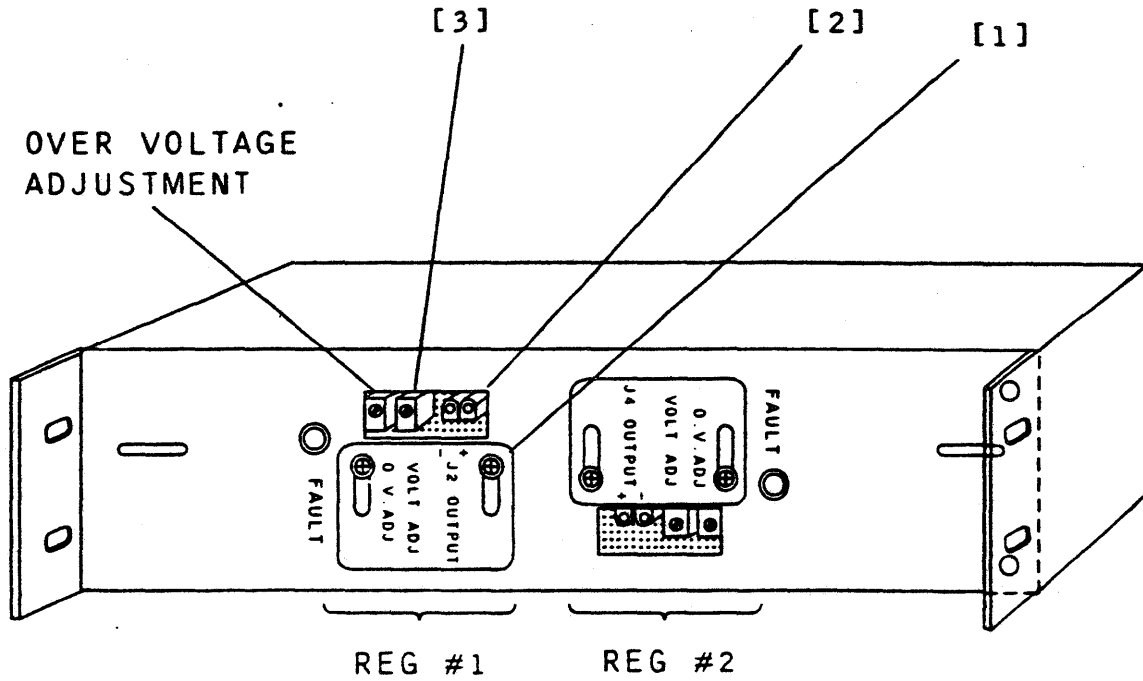

FIGURE 3.1-1. DUAL 100W REGULATOR (58035820) ADJUSTMENT
3. Using cross-tip screwdriver, release regulator adjustment point cover (Figure 3.1-1, [1]).
1. Using digital voltmeter (DC function) having insulated probe tips, carefully insert leads into respective test points (Figure 3.1-1, [2]).
- o Turn VOLT ADJ clockwise until a reading of 10% above normal is obtained (Figure 3.1-1, [3]).